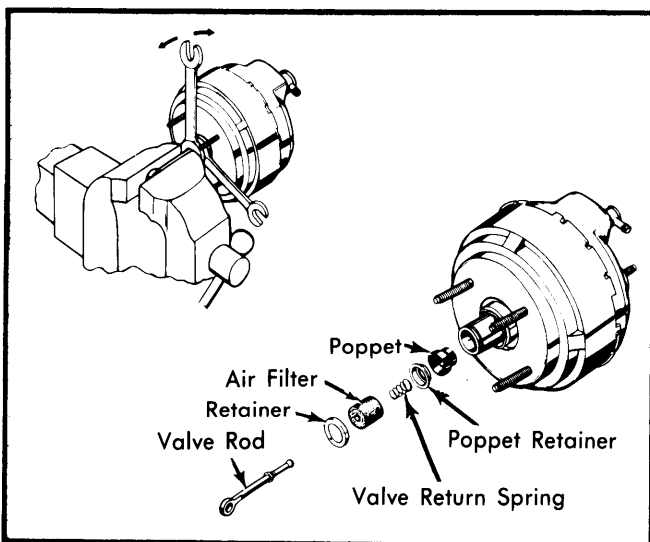

Fig. 1 Valve Rod Component Disassembly
6) Leave room for two wrenches between vise and rear plate hub. See inset in Fig. 1.